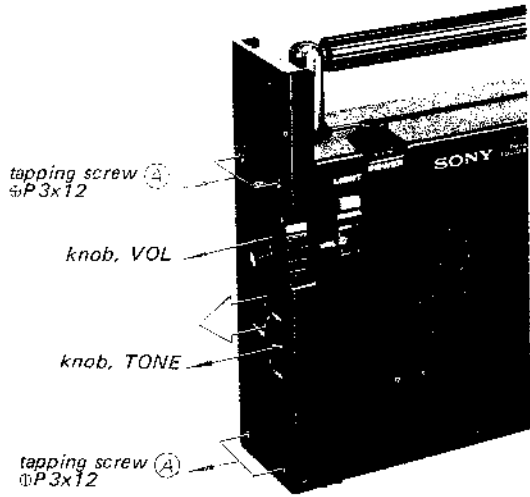

Fig. 2-1.
1. Remove the four screws labeled (A) in Fig. 2-1.
2. Pull out the left side cover along with the VOL knob and TONE knob as shown in Fig. 2-1.